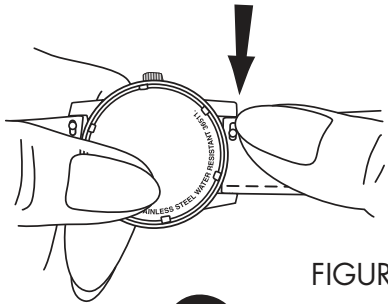

FIGURE 1A
1. (Figure 1A) Grasping watch case in one hand with dial facing away from you, use thumb nail to slide release button toward center of strap/bracelet.